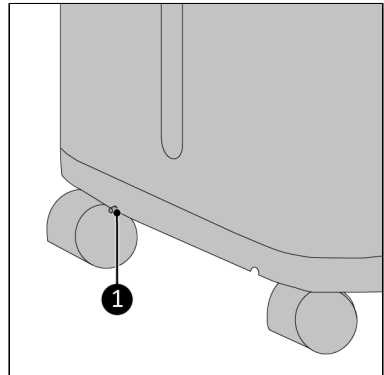

Figure 20.
At the back of the device, at the bottom, is a tap point (Figure 20, pos. 1). This tap can be used to remove residual water from the device before you move or store it: